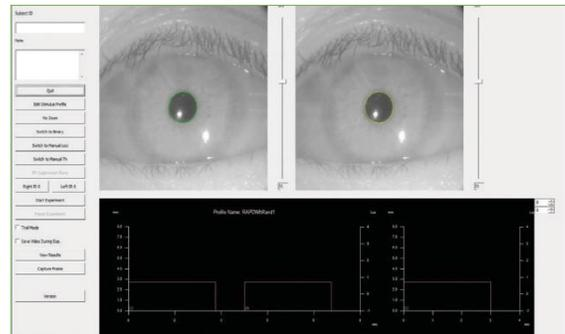

Figure 9 – The main program graphic user interface GUI.
All possible options to operate the program are listed in the left most side of the GUI (see Figure 9). The live video from the two cameras is displayed in the same GUI. Pupil tracking is represented by a circle fitting the contour of the pupil - the subject's left eye is displayed on the right and the subject's right eye is displayed on the left. This is to maintain the natural perspective of the examiner facing the subject during the examination. The left pupil (OS) is tracked with a yellow circle and the right pupil (OD) with a green circle. This association (left-yellow and right-green) is also used for display purposes (see below). Light stimulus waveform and the corresponding pupil response dynamics are shown together in the graph located at the bottom of the GUI. Note: the software version can be checked by pressing the Version button.
The first two windows on the top of the list (Figure 9) serve to enter information regarding the current measurement (Subject ID and Note). This information is attached to the master data result file produced at the end of the measurement and used for defining the name of the result file. Note: the following characters are not allowed to be used “. / \ [] : + | < > = ; , * ?” in the Subject ID.